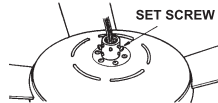

Fig.9
Step 2. Loosen the two set screws from the motor coupling. (Fig.9)